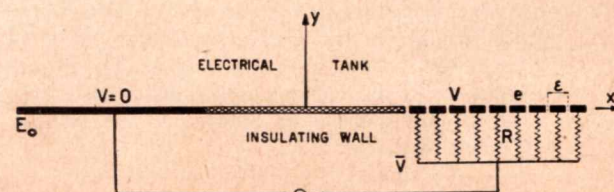

Figure 3c—Tank for two-dimensional airfoil with jet.
In the type of electrical analogy used, the perturbation potential $\phi(x, y)$ is represented by the electrical potential $V(x, y)$ of a plane electrolytic tank of large size, which represents the half-plane xOy , Figure 3c. One of the sides of the tank is taken as an analogical image of the axis Ox ; the part of this side that corresponds to the interval $(-\infty, -c/2)$ is covered with an electrode E_0 which is raised to a potential $V = 0$ in order to satisfy condition (1) above. The interval $(-c/2, +c/2)$ is represented by an insulating wall, since the normal derivative V'_y , which is proportional to the electrical current density along Ox , must be zero in order to satisfy condition (2): $\phi'_y = h'_x = 0$. In the interval $(+c/2, +\infty)$ which represents the jet, are disposed a large number of small electrodes e connected as shown in Figure 3c through resistors R to an alternating current source. Let σ be the conductivity of the electrolyte in the tank, h the height of the electrolyte and ε the width along Ox of an electrode e . The current i which enters the tank through this electrode is: